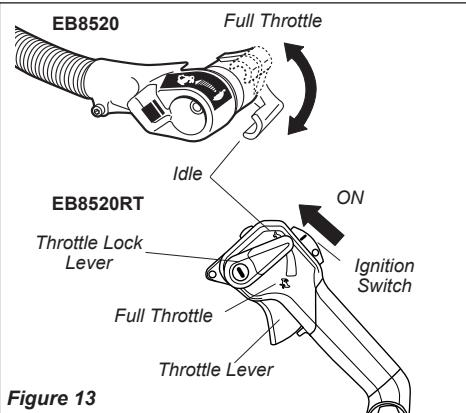

Figure 13
**RT Model:** Slide the ignition switch to the "I" (ON) position, then depress the throttle lever halfway and lock throttle by moving the throttle lock lever halfway down. See Figure 13.